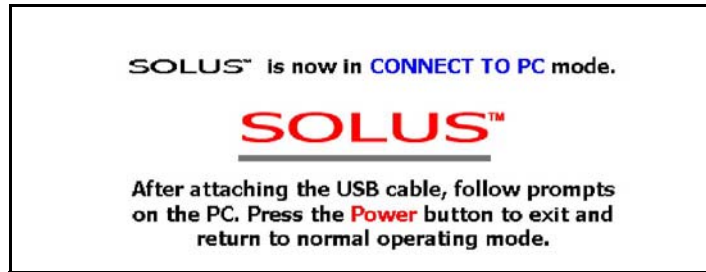

Figure 4-27 SOLUS in Connect to PC mode message
5. Press the **Power** button to turn on the SOLUS Diagnostic Tool and a message displays (Figure 4-27).